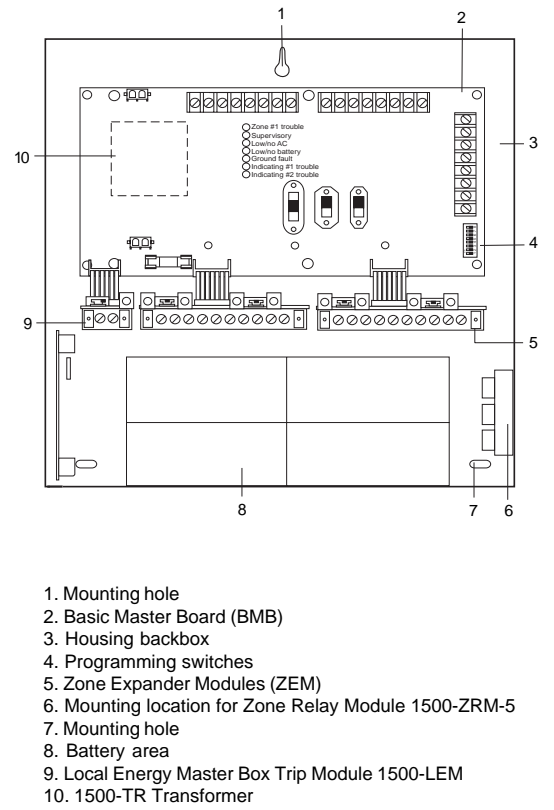

Figure 9. Zone Relay Module (ZRM) Placement
- 2 Mount the snap track on the lower, right side of the cabinet. See Figure 9.